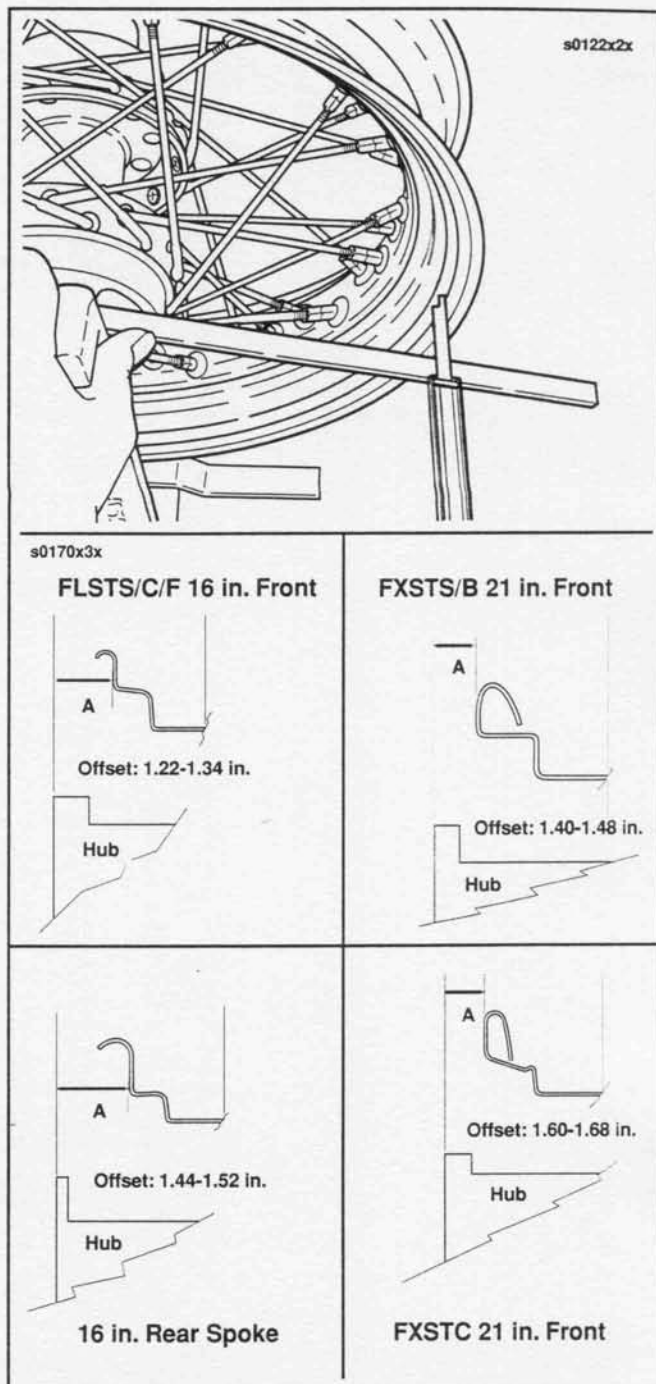

Figure 2-30. Checking Laced Hub Offset Dimension
3. See Figure 2-30. Lay a straightedge across the hub brake disc flange and one of the marked spoke groups. Measure distance "A" from the straightedge to the location shown in Figure 2-30.